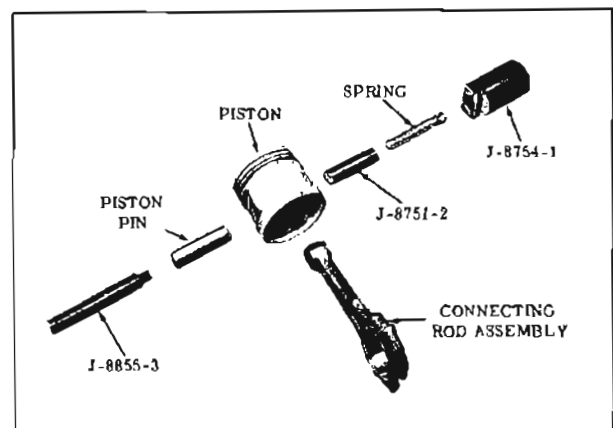

Fig. 8-133 Tool J-8754
1. Place spring and guide stop Tool J-8751-2 in main body Tool J-8754-1. (Fig. 8-133)